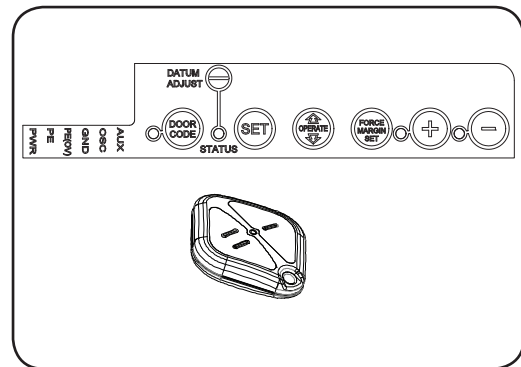

Fig. 32
- Press the DOOR CODE button twice. The DOOR CODE LED will illuminate and the courtesy light will turn on to indicate that the light code learning is active (**Fig. 32**).